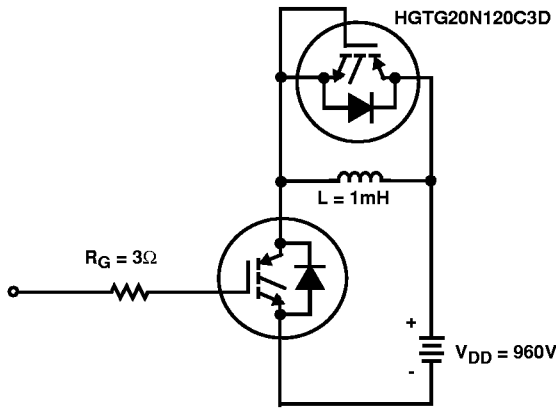

FIGURE 19. INDUCTIVE SWITCHING TEST CIRCUIT
- Values for two Turn-On loss conditions are shown for the convenience of the circuit designer.  $E_{ON1}$  is the turn-on loss of the IGBT only.  $E_{ON2}$  is the turn-on loss when a typical diode is used in the test circuit and the diode is at the same  $T_J$  as the IGBT. The diode type is specified in Figure 19.